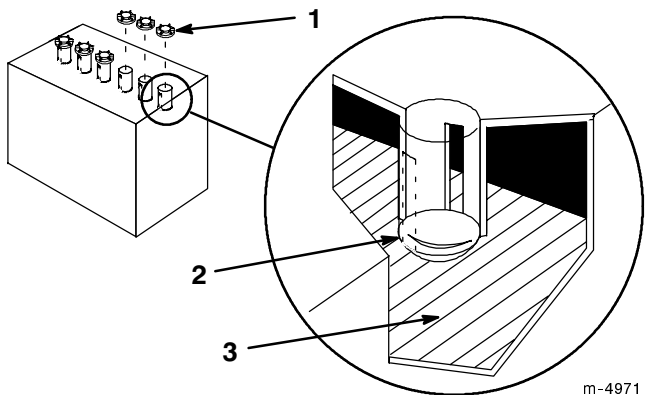

Figure 21
2. Open the vent caps to see into the cells. The electrolyte must be up to the bottom of the vent well (Fig. 21). Do not allow the electrolyte to get below the plates. (Fig. 21).
3. Remove the vent caps from the battery (Fig. 21).
4. Slowly pour distilled water into each cell until the electrolyte level is up to the bottom of the vent wells (Fig. 21).